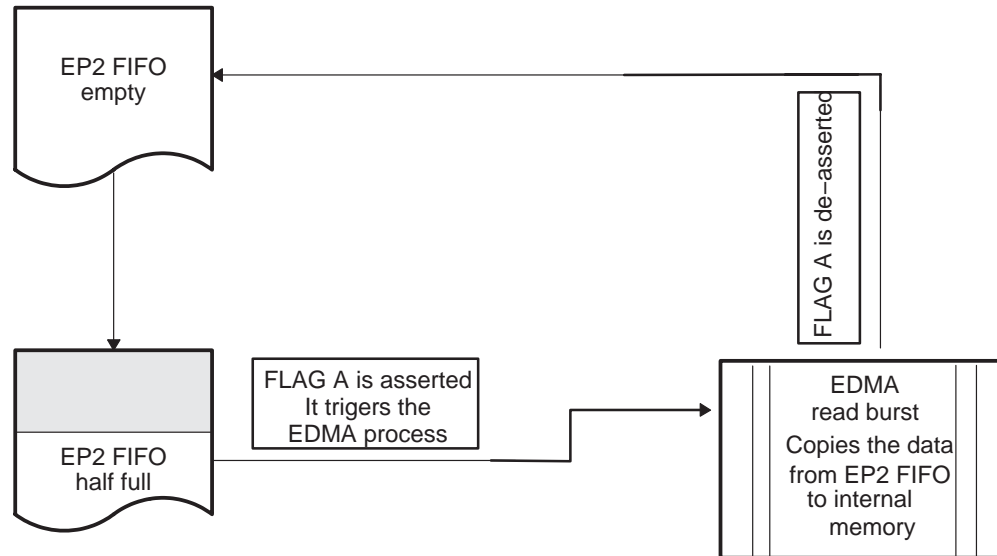

Figure 3. Example Flag Configuration – Interrupt
As shown in Figure 3, another application might require triggering an EDMA read burst event automatically when the FIFO is half full. An external interrupt will be needed for triggering. This requires the use of FLAG A pin as it can only be configured as an external interrupt. The FLAG A pin in its default state shows the programmable flag(PF) status of the selected FIFO endpoint on FIFOADR[2:0]. Assume that the EP2 FIFO is selected. The programmable flag can be setup, using the EPxPFH/KL registers, to indicate when the EP2 FIFO fills up to half of its capacity. Any interrupt occurrence on the FLAG A pin with this configuration triggers the EDMA read burst automatically.